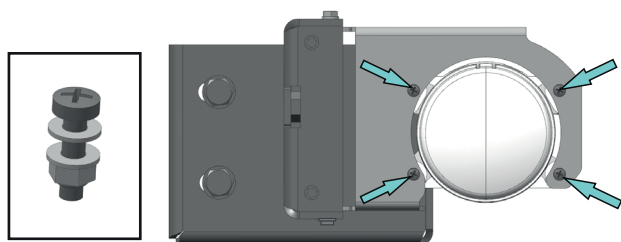

Fig. 20
16. Install OE fog lights on fog lights right bracket (OE plastic bumper Rubicon/Sahara) (item 6) and fog lights left bracket (OE plastic bumper Rubicon/Sahara) (item 7). Fix it using screw M4x16 (item C), washer 4 mm (item G) and nuts M4 (item D). Fix OE fog lights wiring using cable ties (item L) and cable clips (item M) on the vehicle's frame (Fig. 20, 21).